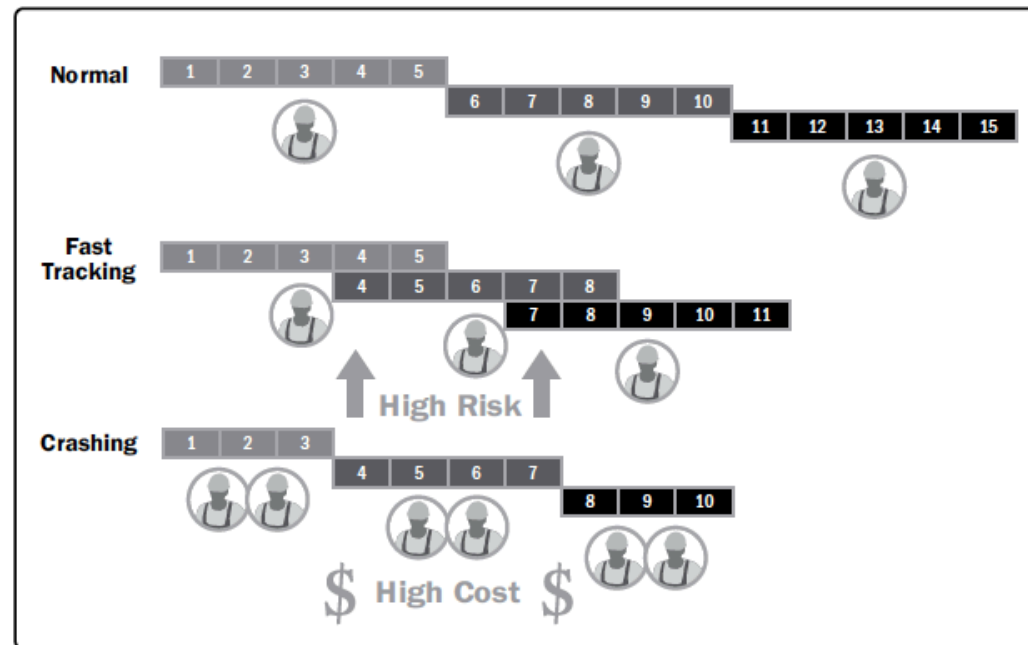

Figure 6-19. Schedule Compression Comparison
- Schedule compression techniques are compared in Figure 6-19 and include: